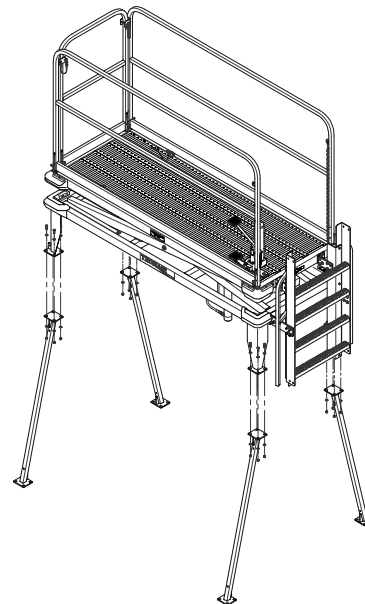

FIGURE 1
2. Install platform extensions to the bottom of platform assembly using $\frac{3}{8}$ -16 x 1½ inch long bolts (See *Figure 1*). **Note: Do not tighten bolts.**